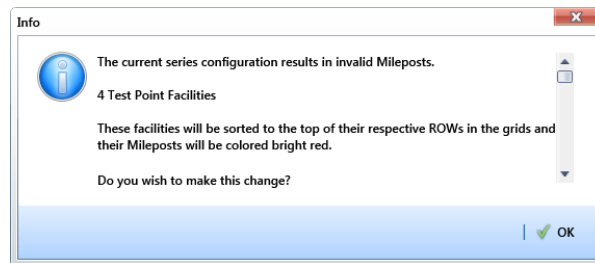

Figure 2-43. Pipeline Series Message
- 10 When a message similar to the following example displays, click  **OK** to apply *Pipeline Series* to effected mileposts (Figure 2-43). Or, click the Windows close button  to cancel the operation and close the message.